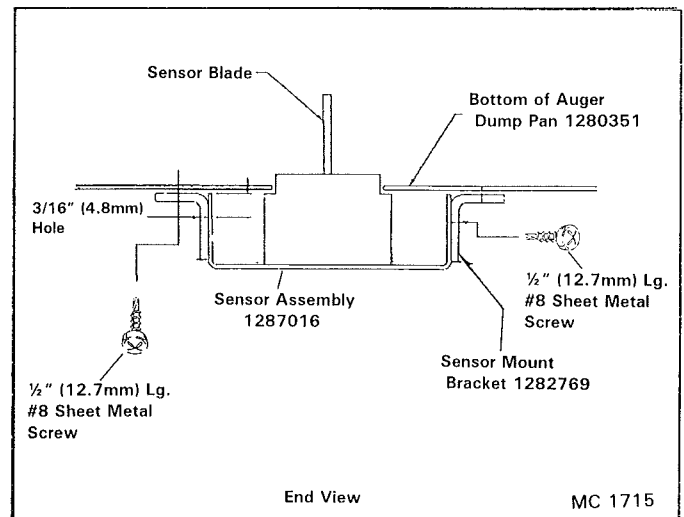

Figure 13 Sensor and Sensor Mounting Brackets
1. The Sensor for the Moisture Monitor is shipped fastened to the right rear side of the dryer base. Once dryer is in position at the drying site, the Sensor can be installed. See Figure 13.
2. The rear 8 ft. (2.44m) Discharge Auger Pan has a Cover Plate over the rectangular cutout for the Sensor. The (2) Sensor Brackets #1282769 are used to hold the Cover Plate in place. Remove the (4) #8 sheet metal screws from the (2) Sensor Brackets and discard the Cover Plate. Replace the (2) Sensor Brackets that were just removed.
3. Disconnect the Sensor from the shipping position. The Sensor will be mounted to (2) #1282769 Sensor Brackets that have been attached to the outside bottom of the Auger Pan on each side of the rectangular cutout. Place the Sensor into the cutout and attach Sensor to brackets with (4) #8 x ½" (12.7mm) screws.